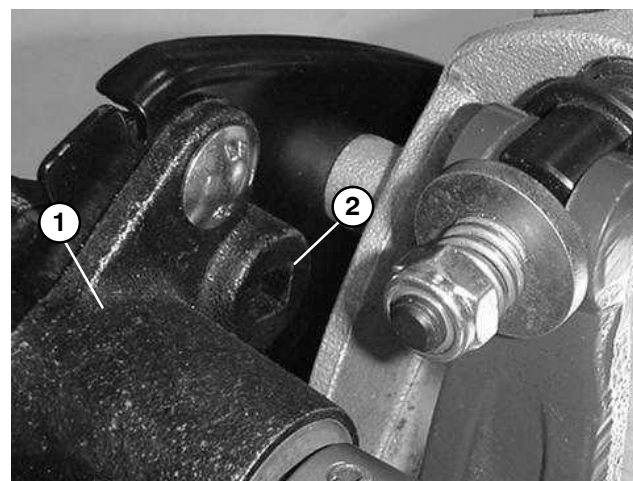

Figure 10
B. With a 3/8 in. drive torque wrench, pivot the bearing housing from 35 to 40 in-lb (40 to 46 kg-cm) to set belt tension (Fig. 10). **Do not over tension belt.** Hold bearing housing with the torque wrench and tighten bearing housing nuts to lock adjustment.